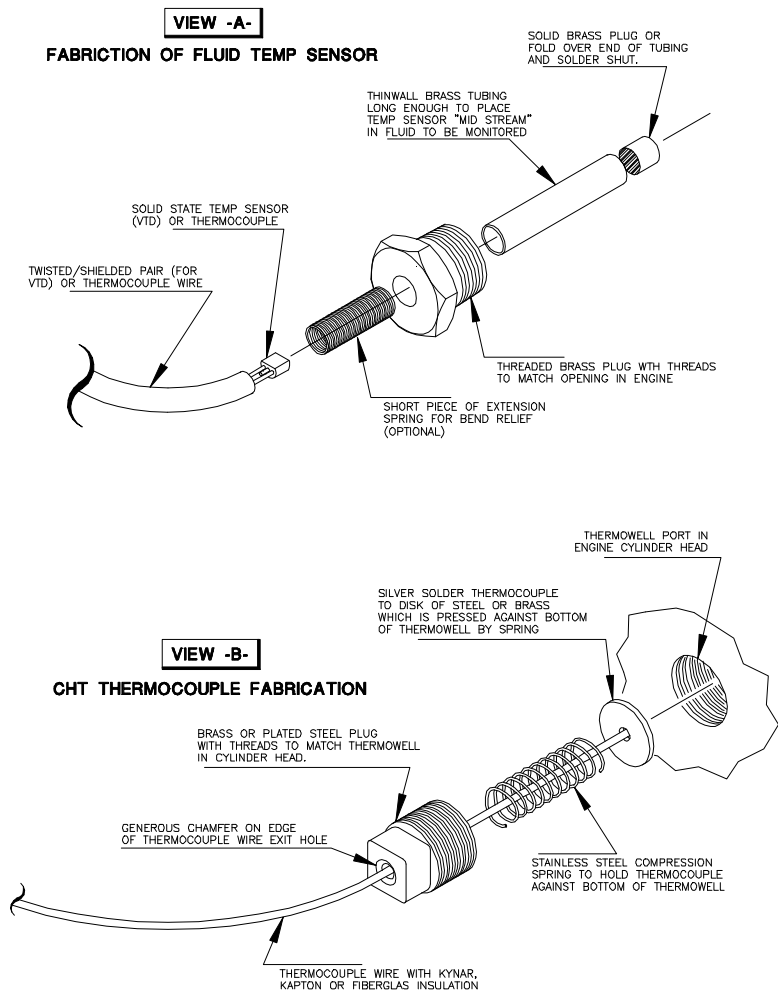

Figure 14-15. Thermowells for Temperature Sensing.
Most access to water or oil flow in an engine is through tapered, pipe-thread openings. The plumbing department of a well stocked hardware store will yield a brass plug the proper size to fit your engine's oil or water temp sensor opening. Good thermal contact of your temperature sensor (thermistor, thermocouple or solid state) with the fluid being monitored is essential. The usual technique calls for fabricating a "thermowell." A thermowell is illustrated in Figure 14-15. Actually, about every temperature transducer (or sender) is a form of thermowell. The purposes of a thermowell are (1) to extend into a liquid far enough to measure its temperature in the main fluid flow and (2) get as much thermal isolation as possible from the surrounding environment (crankcase, etc.). The thermowell I like to build is illustrated in Figure 14-15. It is fabricated from a brass plug through which I drill a $1/4"$ hole. A piece of thin-wall, brass tubing is soldered into the plug. The length of the tubing is that which is judged to place the sensor into free flow of fluid inside the engine. The sensor end is squeezed shut and soldered. The sensor is then cemented or soldered into the bottom of the "well." Silicon sealant around